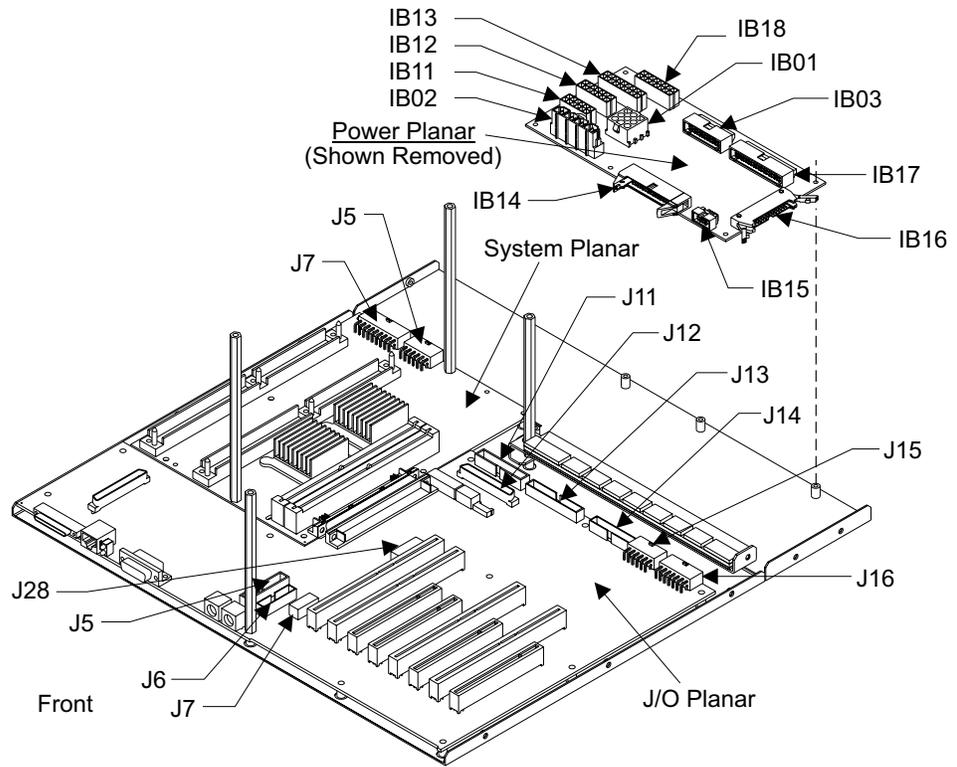

Figure 159. Cluster Bay Planar Connector Locations (S008793n)
- Cluster Bay Planar Connector Locations, Figure 159 on page 153